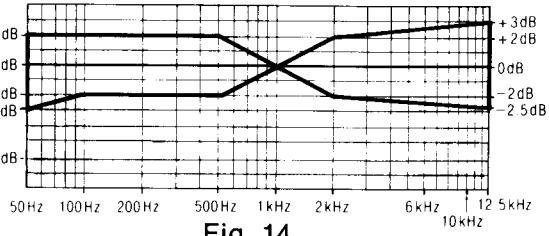
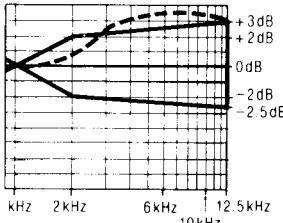
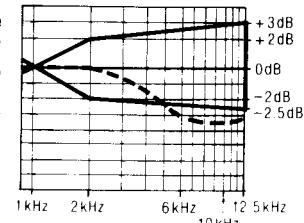

Fig. 14
Fig. 15
Fig. 16
6. Playback the signals recorded in step 5, and check if the frequency response curve is within the limits shown in the overall frequency response chart for normal tapes (fig. 14). (If the curve is within the charted specifications, proceed to steps 7, 8 and 9.)
When the curve exceeds the overall specified frequency response chart (fig. 14) as shown in fig. 15.
- 2) Repeat steps 5 and 6 for confirmation (Proceed to steps 7, 8 and 9 if the curve is now within the charted specifications as shown fig. 14.)
- 3) If the curve still exceeds the specifications (fig. 14), increase bias current further and repeat steps 5 and 6.
When the curve falls below the overall specified frequency response chart (fig. 14) as shown in fig. 16.
- 3) If the curve still falls below the charted specifications (fig. 14), reduce bias current further and repeat steps 5 and 6.